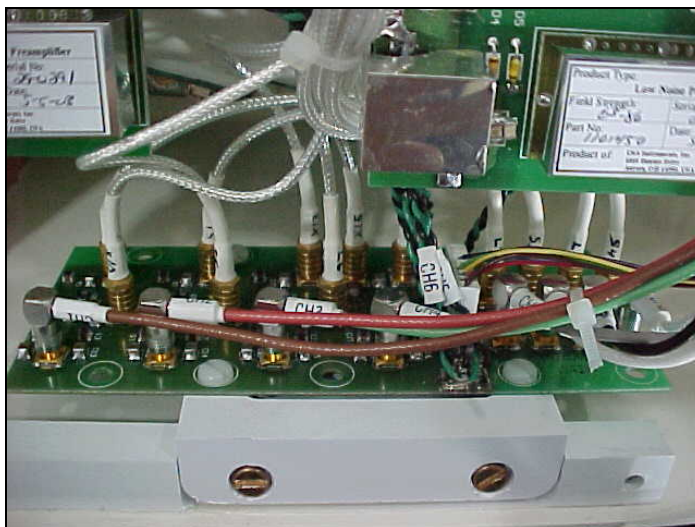

Figure 11: Fixing the cable assembly on the interface board.
Step 5 – Fix a new cable assembly on the CTL coil and reattach the cable lock with two screws. Connect all eight SMB plugs and the DC Plug to the corresponding receptacles on the interface board (see *Figure 11*).